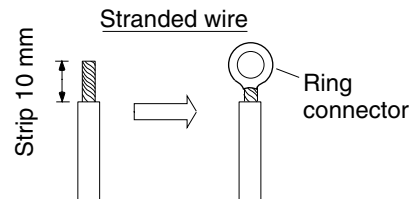

Fig. 3-37
- (1) Cut the wire end with a cutting pliers, then strip the insulation to expose the stranded wiring about 10 mm and tightly twist the wire ends. (Figs. 3-37 and 3-38)
- (2) Using a screwdriver, remove the terminal screw(s) on the terminal plate.
- (3) Using a ring connector fastener or pliers, securely clamp each stripped wire end with a ring connector. (Fig. 3-37)